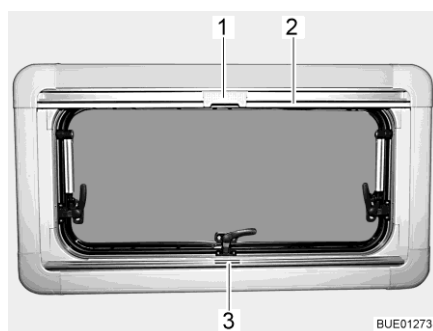
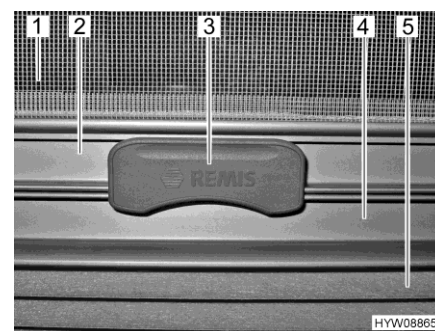

Fig. 17 Hinged window
Fig. 18 Catch
**Roman shade** The Roman shade (Fig. 18,5) is located in the lower blind box.
*Closing:* ■ Seize the Roman shade by the centre of the holding bar (Fig. 17,3 and Fig. 18,4), pull it from the bottom to the top and release it at the desired height. The Roman shade will stay at this height.
**Insect screen** The insect screen (Fig. 18,1) is located in the upper blind box.
*Closing:* ■ Pull the insect screen down by the holding bar (Fig. 17,2 and Fig. 18,2), until it touches the holding bar of the Roman shade (Fig. 18,4).
■ Clip the catch (Fig. 17,1 and Fig. 18,3) on the insect screen into the holding bar of the Roman shade. When the catch is locked, the Roman shade and the insect screen can be adjusted together.
*Opening:* ■ Push the catch (Fig. 18,3) on the insect screen upward.
■ Move the insect screen back slowly on the holding bar (Fig. 17,2).